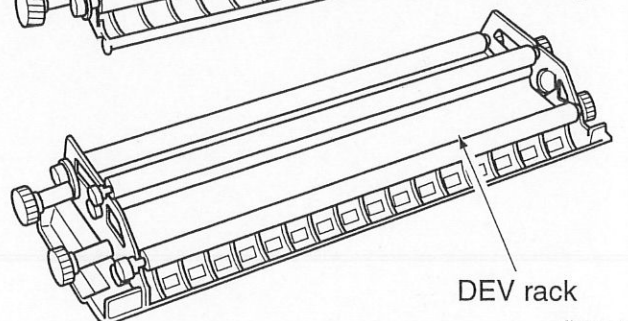

fig.34
- ③ Remove the DEV rack. (fig.34)